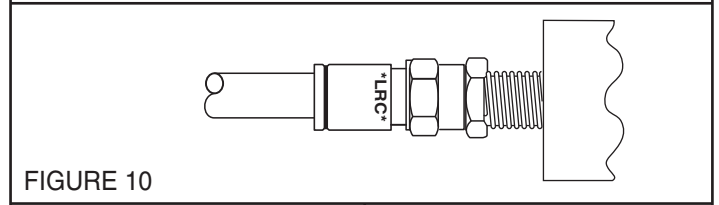

FIGURE 10
**(C) Nut Seal:** Thread nut seal all the way onto the F port with the o-ring facing out (minimum port length of .281 is required). Thread connector onto the port. Wrench tighten connector 25 to 30 in. lbs. torque. When connector is tight, screw the nut seal back against the connector. Tighten nut seal 25 to 30 in. lbs (see Figure 10).
**(D) Thread Protector:** Using the TP Chart, determine which thread protector should be used for your port length.